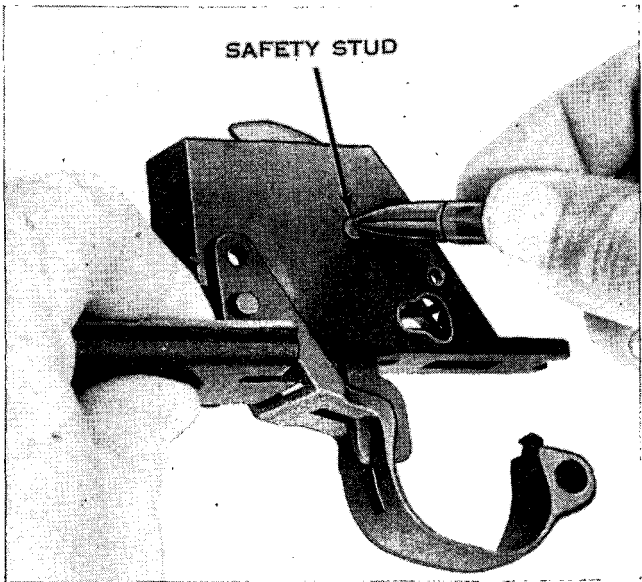

Figure 24. Unseating the safety.
d. Unlatch the trigger guard. Lay the trigger housing on its right side. With the drift of your combination tool, or the point of a bullet, push out the stud of the safety from its hole. Remove the safety by lifting it from its slot in the base of the trigger housing (fig. 24).